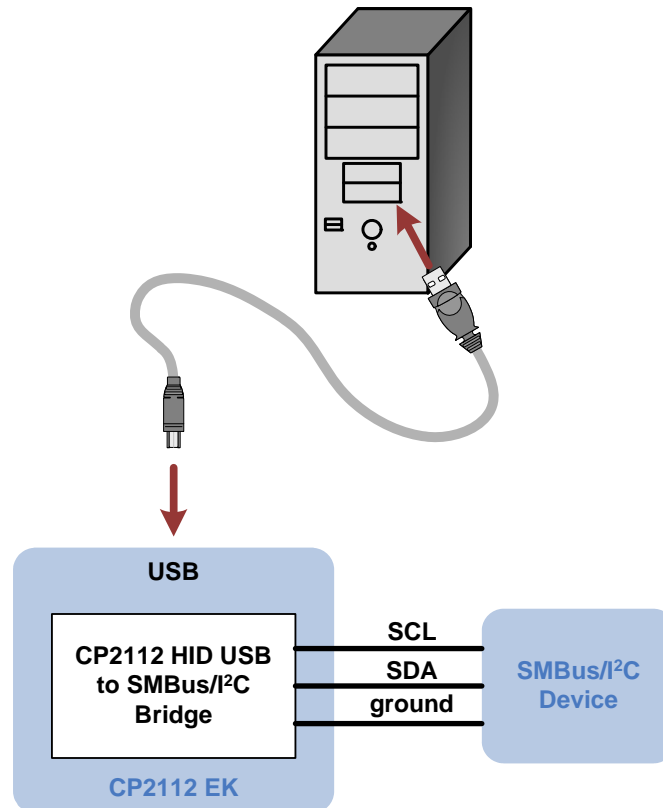

Figure 1. Hardware Setup
1. Connect the CP2112 evaluation board to a PC as shown in Figure 1.
1. Ensure that the hardware is connected to a Windows PC as shown in Figure 1. If the device is properly connected, the red SUSPEND LED on the CP2112 evaluation board will turn on.